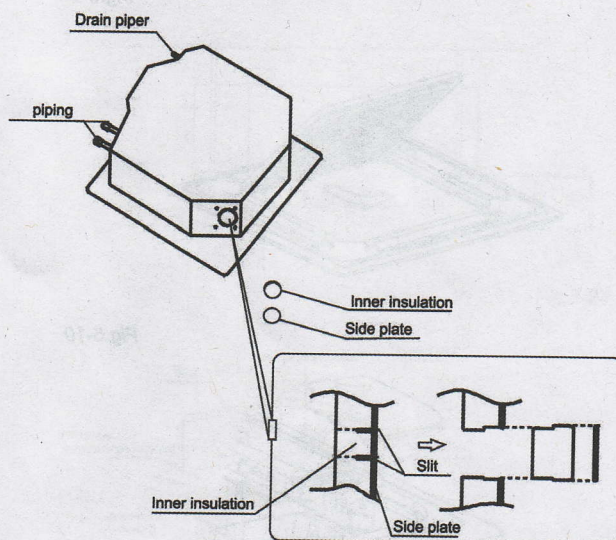

Fig. 5-4
- Cut the inner insulation of the hole portion with a cutter. (Refer to Fig.5-4)